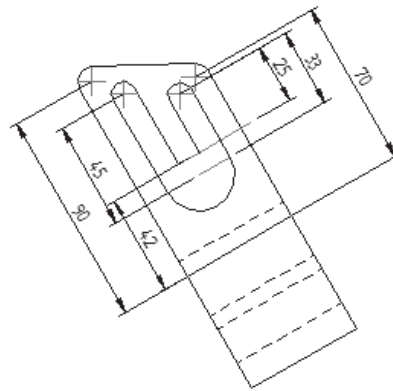

Figure 11-42 Dimensioning the auxiliary view
9. Next, select the center of the arc and then the axis, and place the dimension with a value of 33, see Figure 11-42.